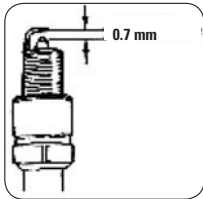

FIGURE 9.5
In order to assure the good working of the engine, the spark plug must be free of deposits and the electrode opening must be within the specified. Figure 9.5.
- E. Measure the spark plug electrode opening with a gauge plate and if necessary adjust the opening. The spark plug electrode opening should be around 0.7mm. Figure 9.5.